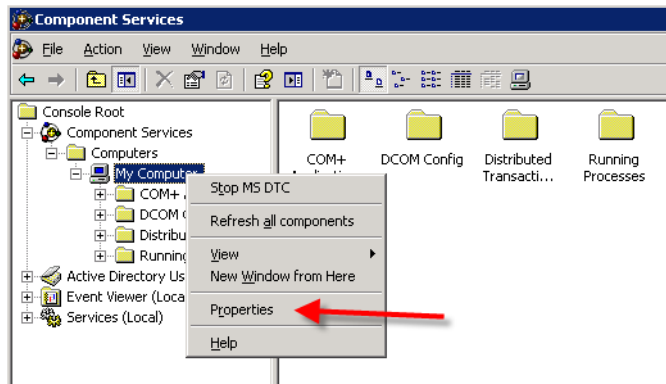

Figure 2-43 My Computer Properties
- Open up Administrative Tools and select **Component Services** to open the Component Services window, as shown below in figure 2-43.